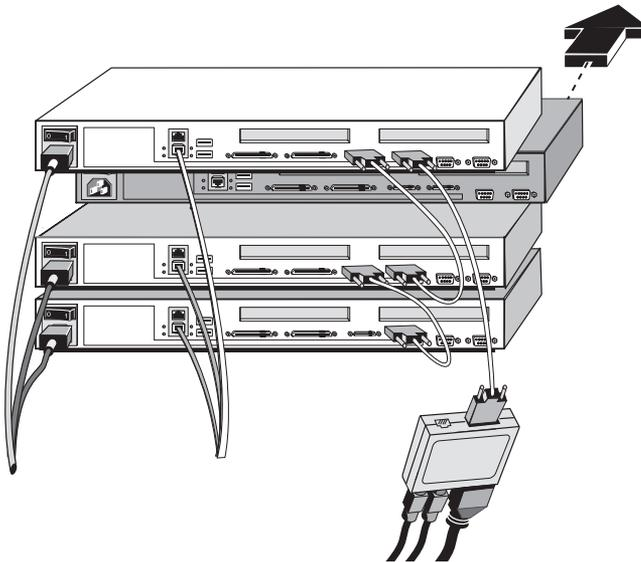

Figure 13. Removing a WebEngine from the Cluster
3. Remove one CMBus cable from the WebEngine you are removing and connect the other cable, as shown in Figure 13.